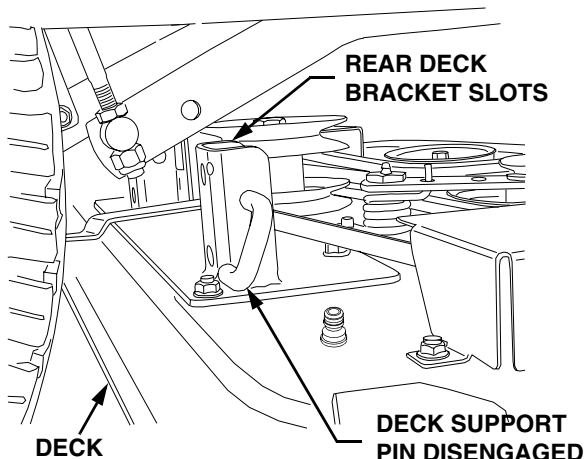

Figure 47
6. If not already done, pull the deck support pins outward, turn downward and release so both spring-loaded pins are held in the disengaged position against the outer surface of the deck brackets (See Figure 47).